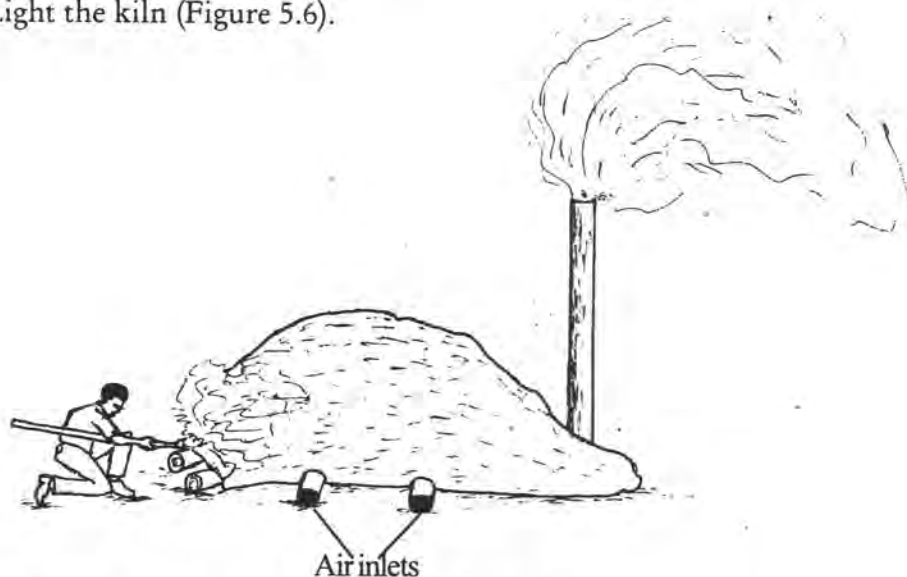

Figure 5.6: *The air lets are put in place and the kiln lit*
- Light the kiln (Figure 5.6).